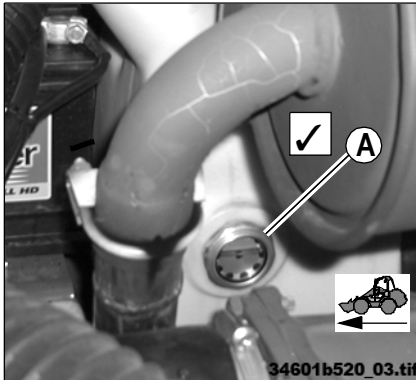

Fig. 63: Oil level sight glass on the hydraulic oil tank
- 10 Check the hydraulic oil level in the oil level sight glass (fig. 63/A)